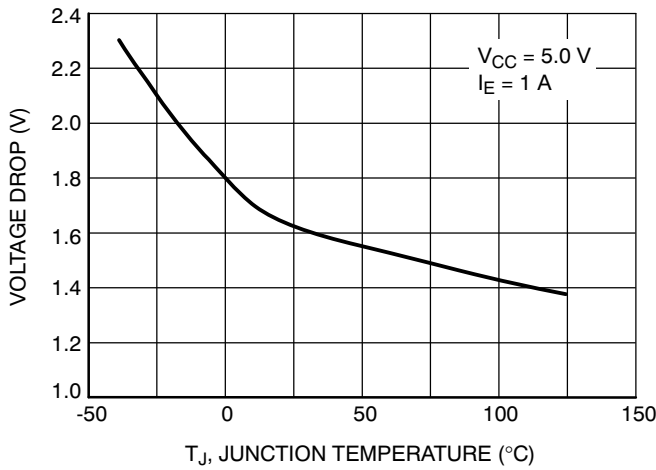

Figure 7. Emitter Follower Configuration Output Darlington Switch Voltage Drop vs. Temperature
9. V_{SWCE} - Darlington Switch Collector to Emitter Voltage Drop, refer to Figures 7, 8, 9 and 10.